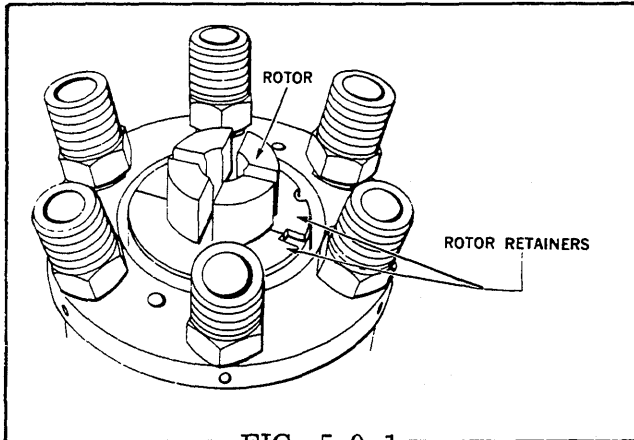

FIG. 5.9.1
STEP 9.1 Assemble the rotor retainers to the head and rotor with the cut-out portions meeting over the roll pin hole in the hydraulic head (Fig. 5.9.1). Rotor retainers for the pressure plate design are identified by a radial notch on the outside diameter.